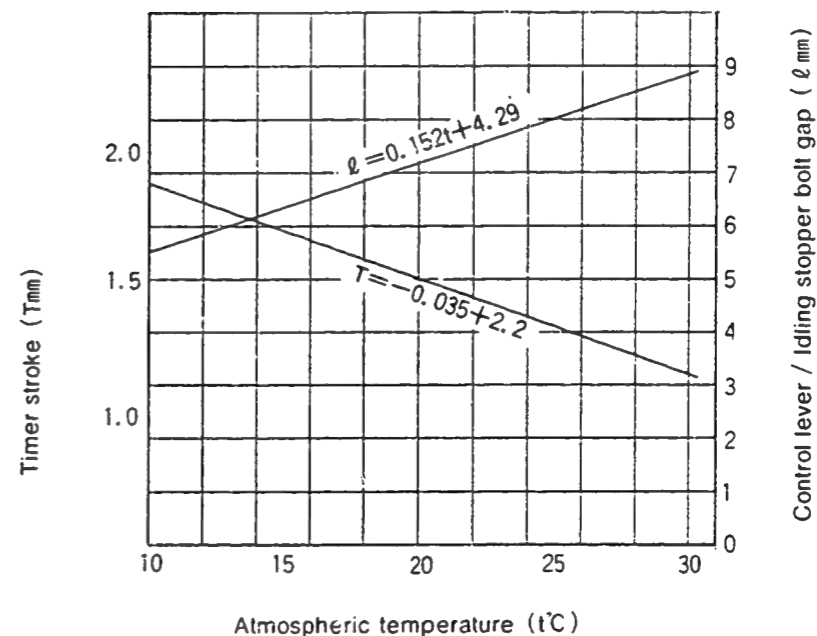

Fig. 2
- ① Using the graph (Fig 2) , determine the Timer Stroke according to the atmospheric temperature at the time of adjustment.
- ② Adjust using the Timer Stroke adjusting bolt so that the Timer Stroke corresponds to the value determined in ncte ① above.
- ① Insert a block gauge of 5.3 ± 0.05 mm thickness in the gap between the control lever and the idling stopper bolt.
- ② From Fig 2 determine the dimension of the gap between the idling lever pin and the control lever according to the atmospheric temperature at the time of adjustment.
- ③ Adjust using the fast idle adjusting screw so that the gap corresponds to the value determined in note 2) ② above.